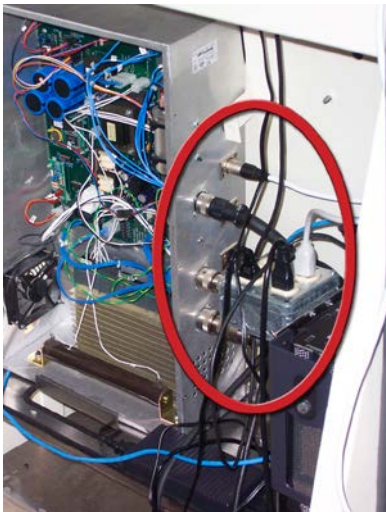

Figure 1h
- Step 8. Plug the printer's power cable into the outlet box. (Figure 1h).